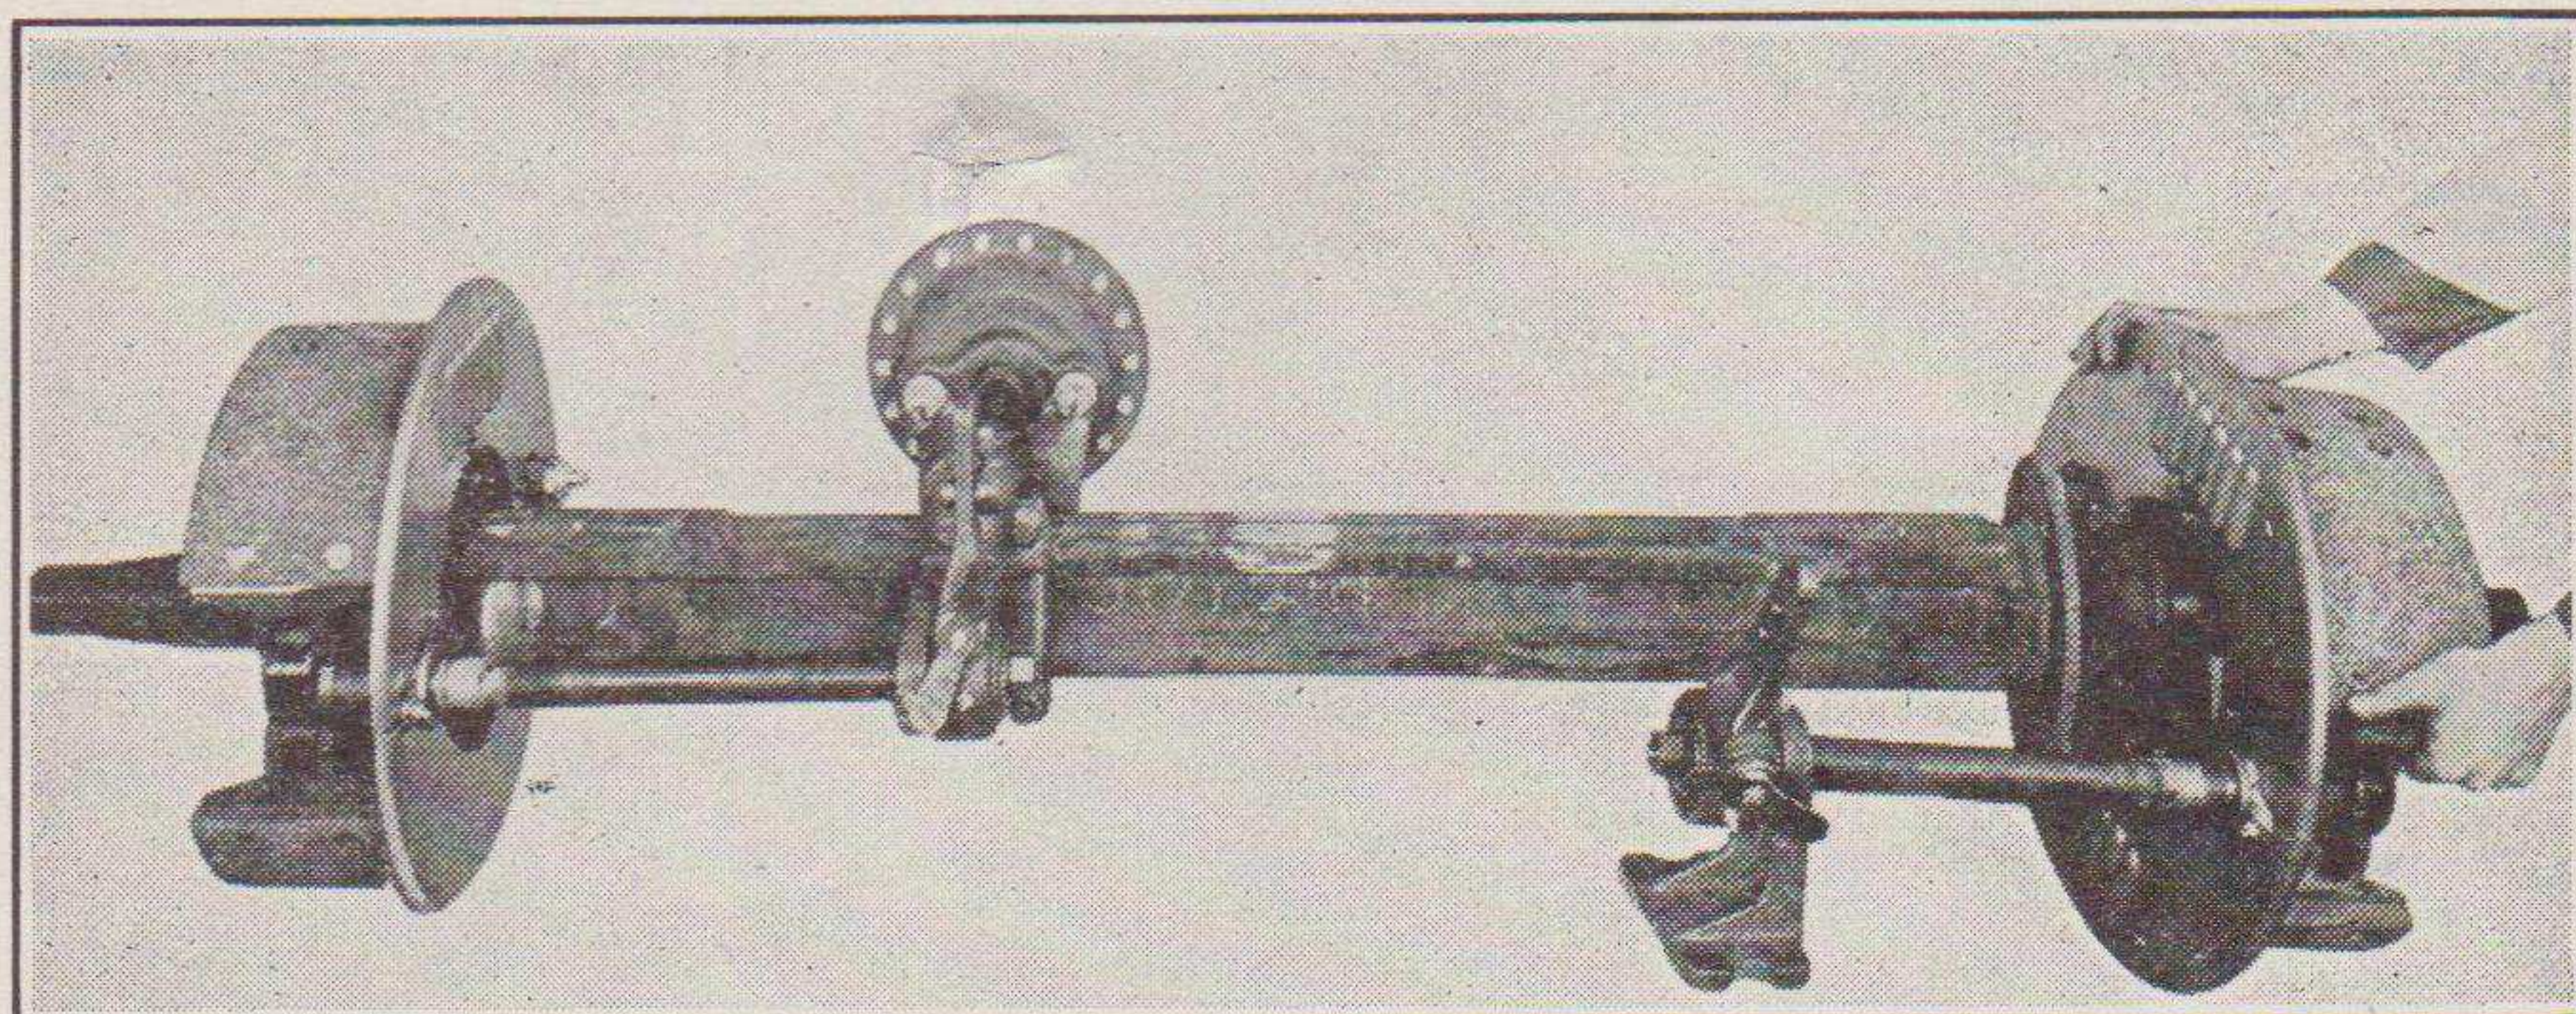

FIGURE 11. REMOVING BRAKE ASSEMBLIES
- h. Mark an "L" on the left hand brake assembly and an "R" on the right hand assembly for identification when reassembling. Remove the brake assemblies by taking out the eight bolts holding brake adapter mounting plate to axle flange on both sides. (Figure 11.) Lift the complete assembly off axle.